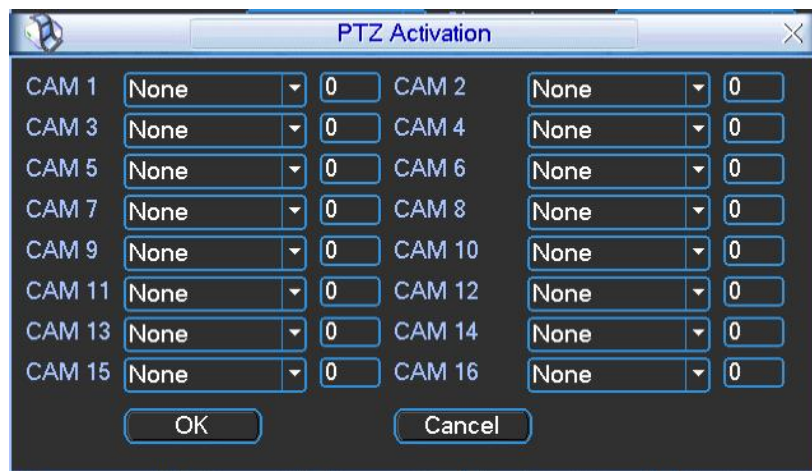

Figure 4-16
- PTZ activation: Here you can set PTZ movement when alarm occurs. Such as go to preset, tour or pattern when there is an alarm. Click “select” button and the display interface is shown as in Figure 4-16.
- PTZ activation: Here you can set PTZ movement when alarm occurs. Such as go to preset, tour or pattern when there is an alarm. Click “select” button to display interface shown in Figure 4-16.
- PTZ activation: Here you can set PTZ movement when alarm occurs. Such as go to preset, tour or pattern when there is an alarm. Click “select” button and you will see an interface as shown in Figure 4-16.